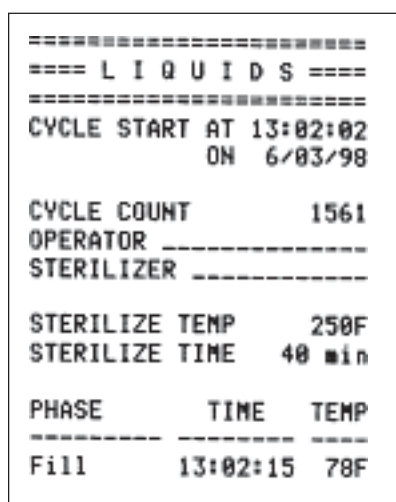

Figure 3-28
2. Next, the optional printer will print relevant data in the format shown in Figure 3-28.